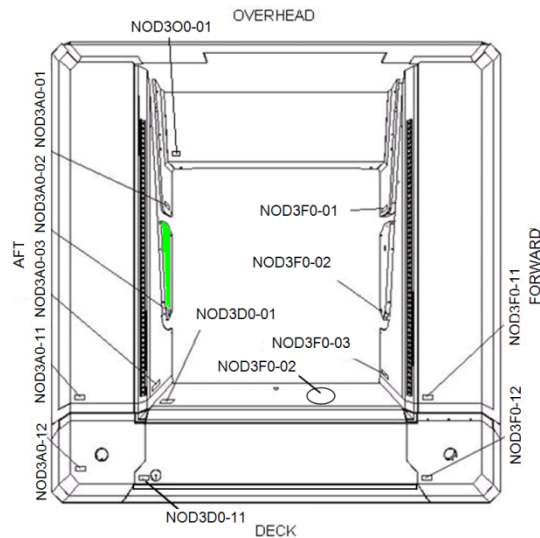

Figure 1.- Node 3 Port Endcone.
- 1.2 Remove Closeout Panel NOD3A0-02, fasteners (four) (Driver Handle, 1/4" Drive; 5/32" Hex Head, 1/4" Drive). Temporarily stow. Refer to Figure 1.
Refer to Figure 1.